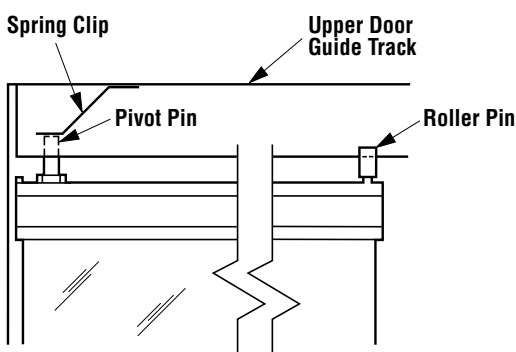

Figure 7
Step 3. Continue to tilt the top of the door into place until the upper pivot pin engages the spring clip and the pivot pin locks into place within the hole of the spring clip (see Figure 7).